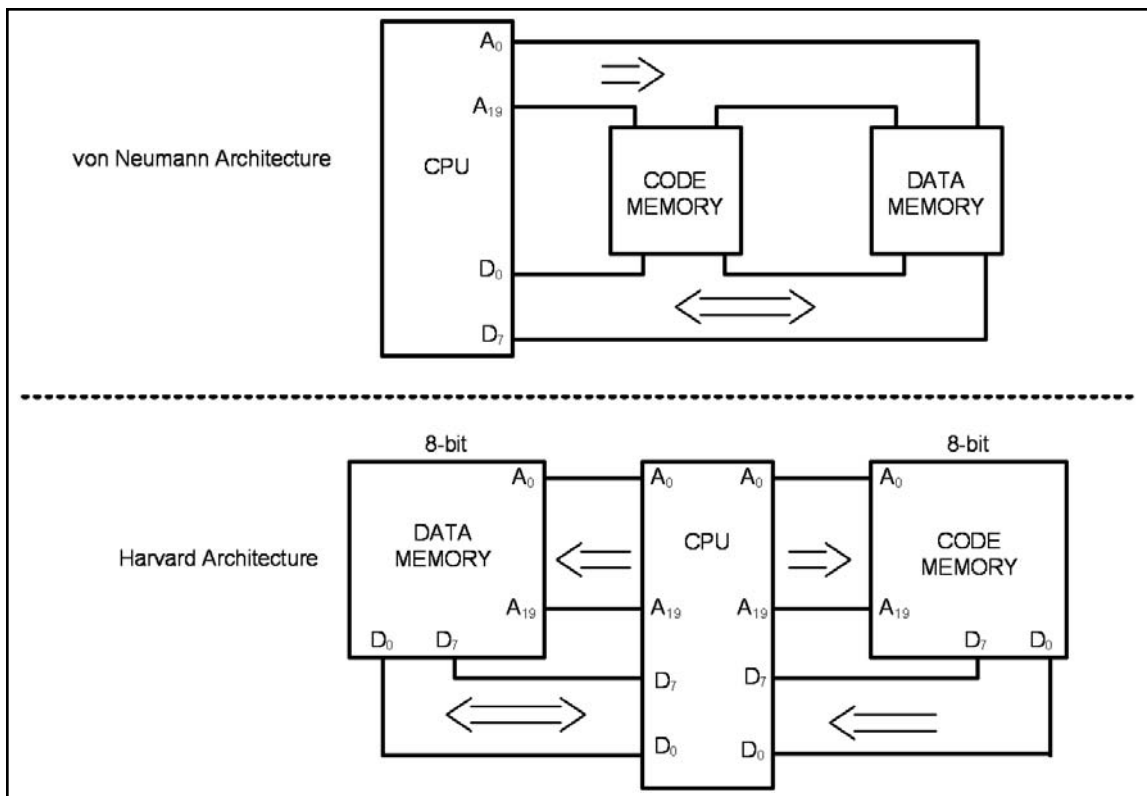

Figure 20. von Neumann vs. Harvard Architecture
Every microprocessor must have memory space to store program (code) and data. While code provides instructions to the CPU, the data provides the information to be processed. The CPU uses buses (wire traces) to access the code ROM and data RAM memory spaces. The early computers used the same bus for accessing both the code and data. Such an architecture is commonly referred to as *von Neumann (Princeton) architecture*. That means for von Neumann computers, the process of accessing the code or data could cause them to get in each other’s way and slow down the processing speed of the CPU, because each had to wait for the other to finish fetching. To speed up the process of program execution, some CPUs use what is called *Harvard architecture*. In Harvard architecture, we have separate buses for the code and data memory. See Figure 20. That means that we need four sets of buses: (1) a set of data buses for carrying data into and out of the CPU, (2) a set of address buses for accessing the data, (3) a set of data buses for carrying code into the CPU, and (4) an address bus for accessing the code. See Figure 20. This is easy to implement inside an IC chip such as a microcontroller where both ROM code and data RAM are internal (on-chip) and distances are on the micron and millimeter scale. But implementing Harvard architecture for systems such as x86 IBM PC-type computers is very expensive because the RAM and ROM that hold code and data are external to the CPU. Separate wire traces for data and code on the motherboard will make the board large and expensive. For example, for a Pentium microprocessor with a 64-bit data bus and a 32-bit address bus we will need about 100 wire traces on the motherboard if it is von Neumann architecture (96 for address and data, plus a few others for control signals of read and write and so on). But the number of wire traces will double to 200 if we use Harvard architecture. Harvard architecture will also necessitate a large number of pins coming out of the microprocessor itself. For this reason you do not see Harvard architecture implemented in the world of PCs and workstations. This is also the reason that microcontrollers such as AVR use Harvard architecture internally, but they still use von Neumann architecture if they need external memory for code and data space. The von Neumann architecture was developed at Princeton University, while the Harvard architecture was the work of Harvard University.